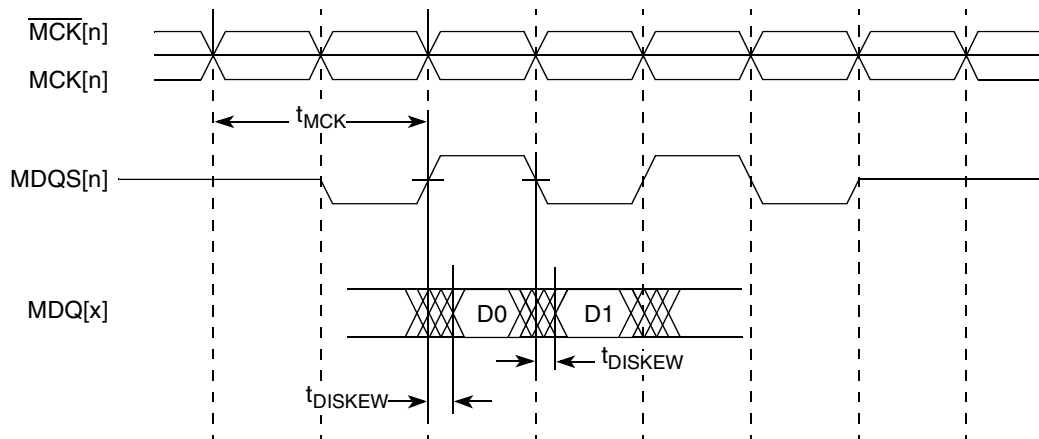

Figure 3. DDR SDRAM Input Timing Diagram ( $t_{DISKEW}$ )
- The amount of skew that can be tolerated from MDQS to a corresponding MDQ signal is called  $t_{DISKEW}$ . This can be determined by the following equation:  $t_{DISKEW} = \pm (T/4 - \text{abs}(t_{CISKEW}))$ , where T is the clock period and  $\text{abs}(t_{CISKEW})$  is the absolute value of  $t_{CISKEW}$ . See Figure 3.